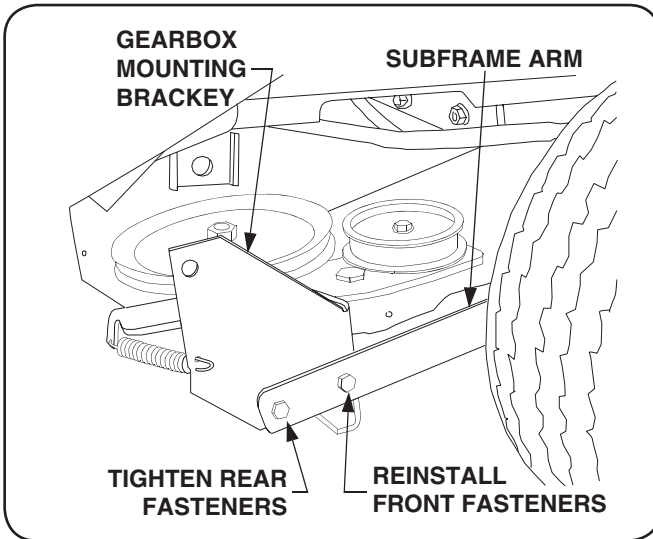

Figure 5-5
- Tractors with 15" front tires ONLY.** Align the gearbox mounting bracket with the subframe arms and reinstall the front hex cap screws and flange lock nuts. Tighten the rear fasteners. See Figure 5-5.